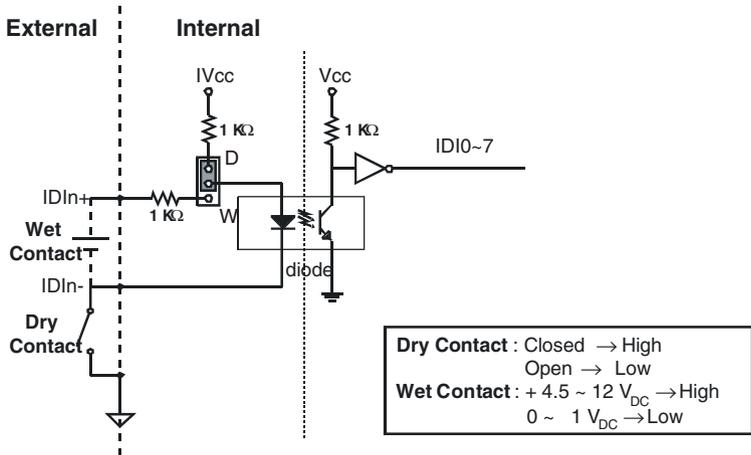

Figure 3.2: Dry and wet contacts
Each of the 8 isolated digital input channels accepts either dry contact or 5 ~ 12 VDC wet contact inputs as determined by the corresponding jumper settings (see Table 2.1 and Table 2.2). Dry contact capability allows an input channel to respond to changes in an external circuit (e.g., the closing of a switch in the external circuit) when no voltage is present in the external circuit. Figure 3.2 shows the internal and external circuitry, with both wet and dry contact components connected as an input source for one of the PCI-1760's isolated digital input channels.
**Note!** The default settings of jumpers JP0 ~ JP7 are dry contact, just as shown in Figure 3.2.